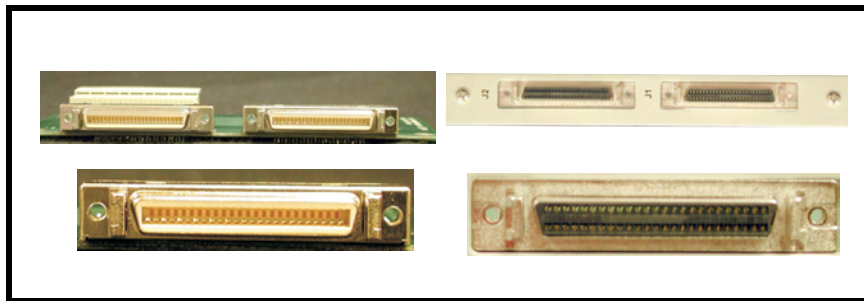

FIGURE 4. MDR backcard/connector and SCSI backcard/connector.
3. Carefully attach the **backcard** (MDR or SCSI, see Figure 4) to the AIO-16 card from the back of the ADAM.